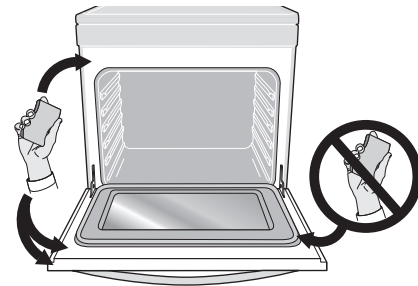

Figure 36: Areas to clean and areas to avoid (gasket)
- Do not spray oven cleaners or oven protective coatings in or around any part of the oven interior. Clean any soil from the oven frame, the door liner outside the oven door gasket, and the small area at the front center of the oven bottom (Figure 36). These areas heat sufficiently to burn soil on. Clean using soap and water prior to starting Self Clean.